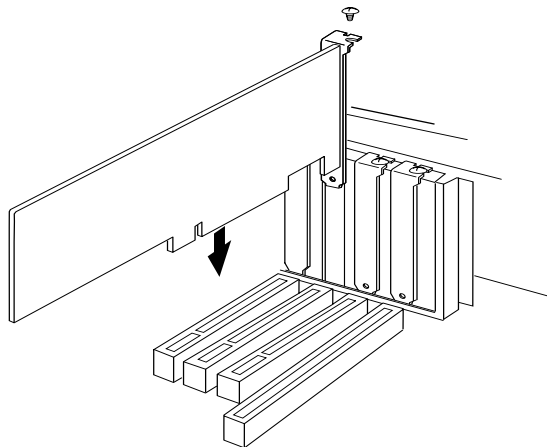

Figure 5-3. Inserting the AHA-398x
- Carefully press the connector on the bottom of the AHA-398x into the slot, as shown in Figure 5-3, until the metal contacts on the bottom of the AHA-398x are securely seated in the slot.